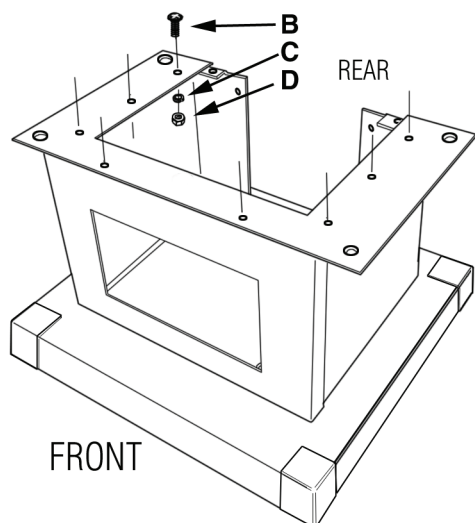

Figure 6 – Attach Pedestal Top.
6. Position the pedestal top and attach with eight (8) machine screws, lock washers and hex nuts. (See Figure 6)